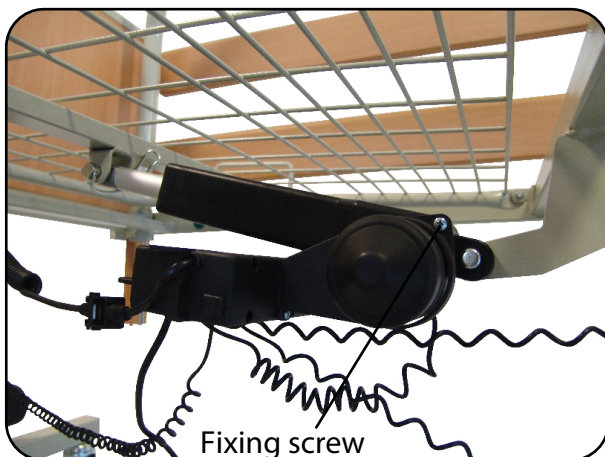

**Fig. 6.3.01 – Controller, manual control unit, mains adapter unboxed**
1. Take the controller and holder from the cardboard box (Fig. 6.3.01).